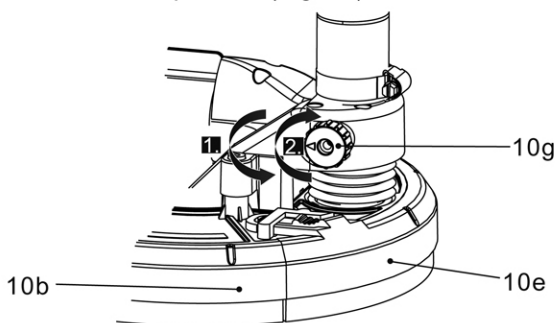

Fig.12
This product features a ceiling function for ceiling work and has an adjusting knob that easily adjusts the suction power you need. Adjust the suction power for ceiling according to the intended operation (Fig. 12).
1. Turn the adjusting knob(10g) anticlockwise to decrease the suction power for ceiling when sanding the ceiling(Fig. 12,step 1).
2. Turn the adjusting knob(10g) clock wise to increase the suction power for ceiling when sanding the ceiling(Fig. 12,step 2).